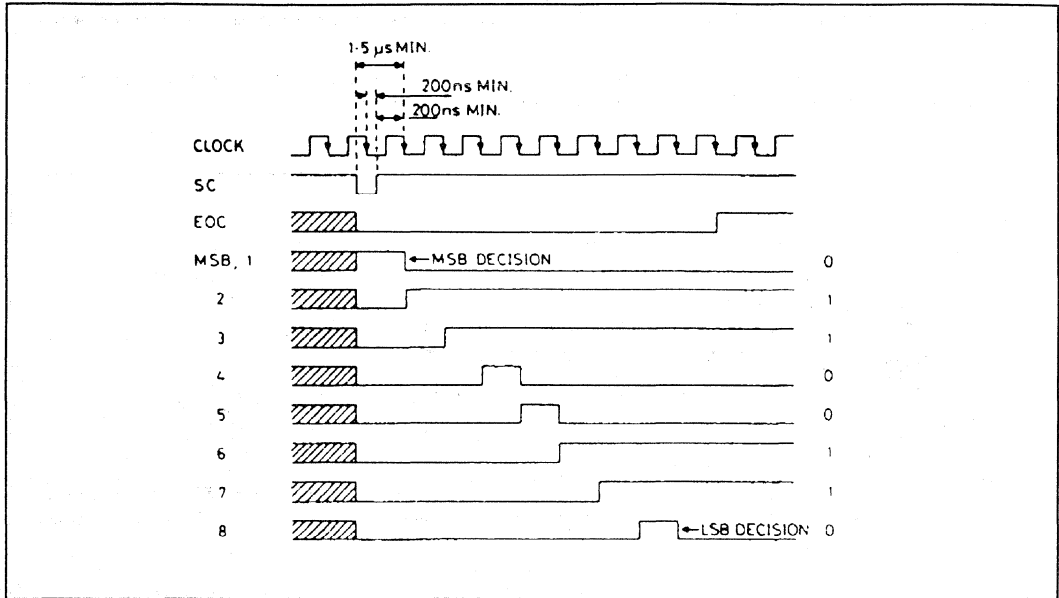

Fig.2 ZN427 timing diagram
The conversion cycle is initiated by a negative going pulse applied to the START CONVERSION (SC) input, this sets the END OF CONVERSION (EOC) output to a logic '0' indicating that the converter is busy, see Fig.2. On the ninth negative going clock edge after the start pulse the EOC output goes